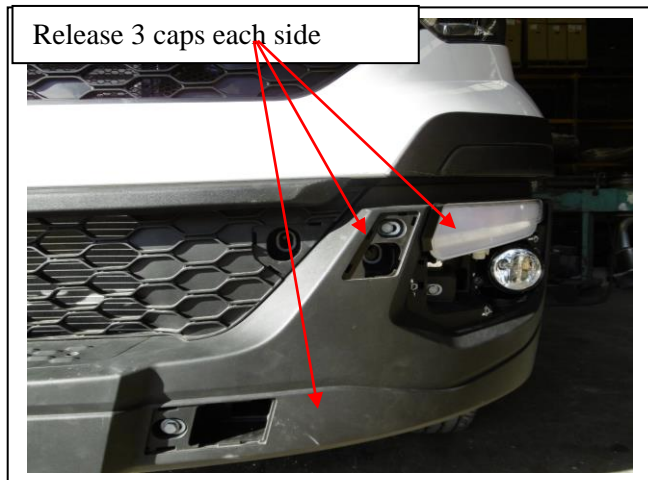

Figure 3
4. Release the caps on the bumper bar covering bumper fasteners. Release the three nuts each side fastening the bumper bar to the chassis and discard. Remove the oblong inserts from the bumper and discard. **See figure 3**